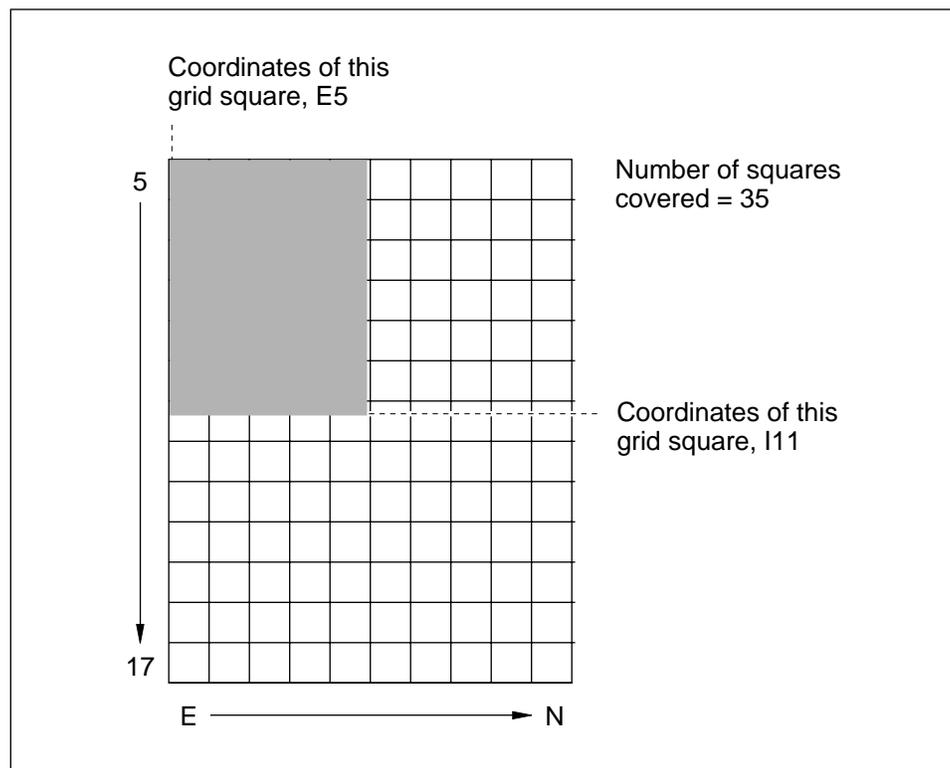

Figure 2-2. Finding the coordinates of the grid squares.
- The coordinates of the **upper left** and **lower right** corners of your sample (figure 2-2).